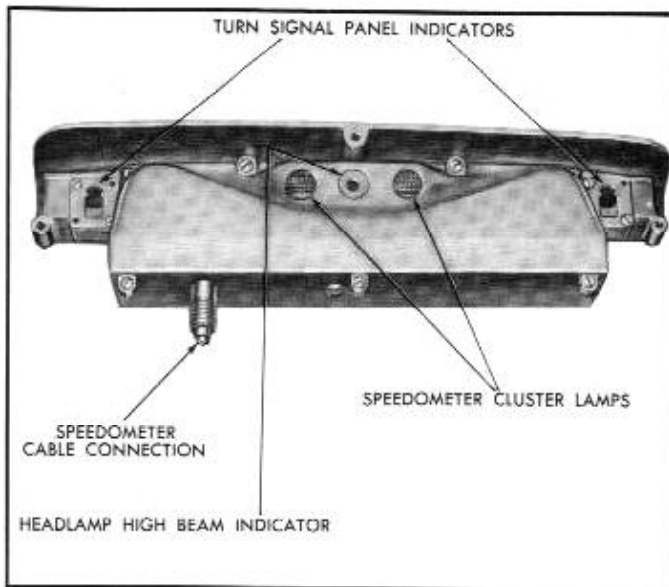

Fig. 11-14—Speedometer Cluster Rear View
5. Carefully lift cluster straight up from instrument panel. Disconnect speedometer cable. Remove three speedometer cluster lamps, and two turn signal indicator lamps from rear of cluster. See figure 11-14.